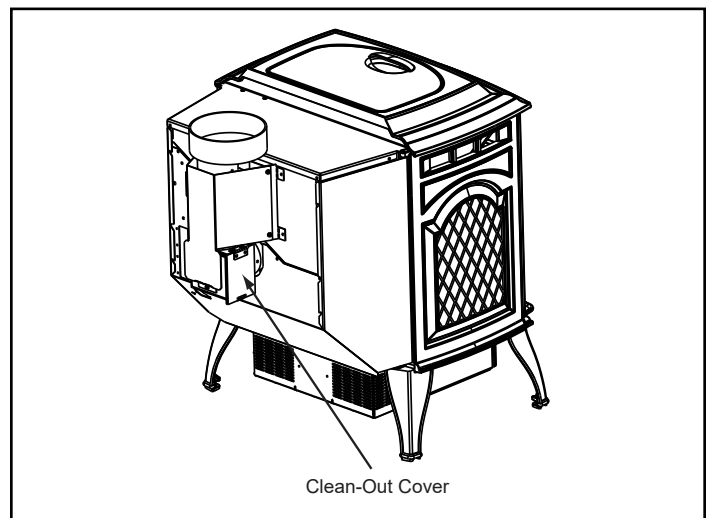

Figure 18.1
- b. Open the clean out cover (**Figure 18.1**).